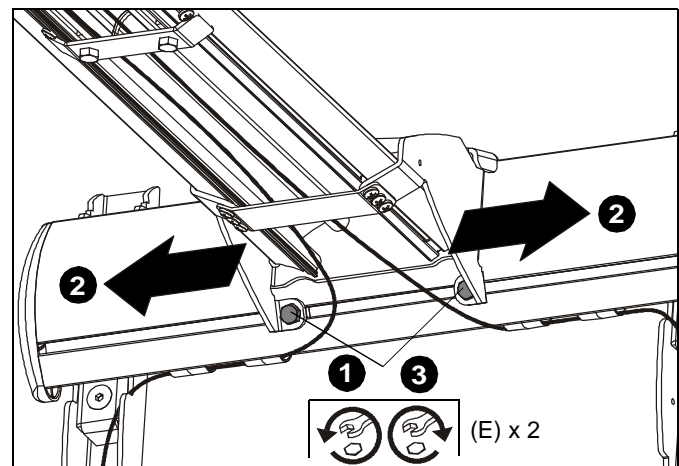

Figure 39
1. Loosen two 1/4-20 x 5/8" hex head cap screws (E) on underside of mounting bracket. (See Figure 39)
2. Adjust projector arm laterally to desired position. (See Figure 39)
3. Tighten two 1/4-20 x 5/8" hex head cap screws (E) loosened in Step 1. (See Figure 39)